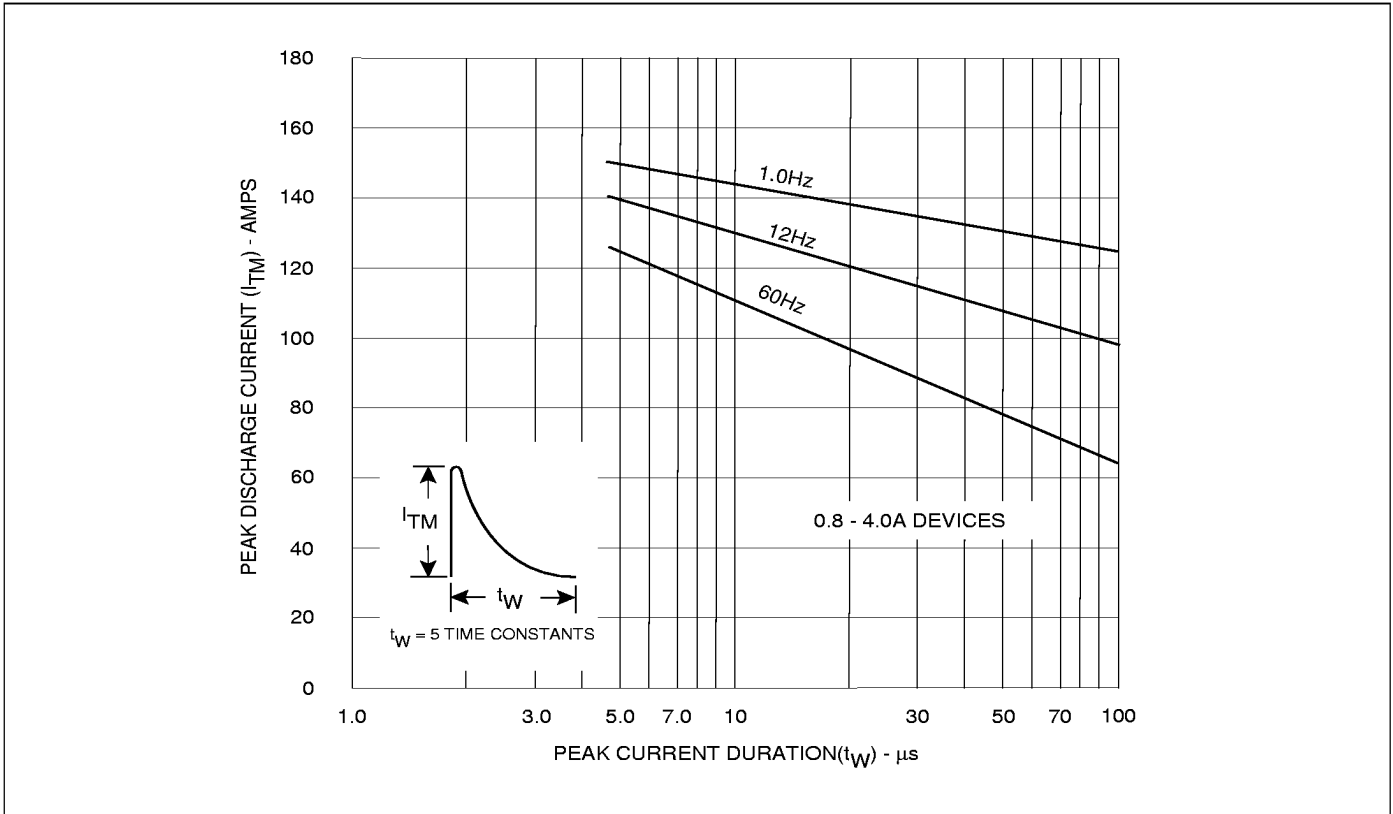

Figure 5.20 Peak Repetitive Capacitor Discharge Current
- (7) 0.8 - 4.0A devices also have a pulse peak forward current on-state rating (repetitive) of 75A. This rating applies for operation at 60Hz, 75°C maximum tab (or anode) lead temperature, switching from 80V peak, sinusoidal current pulse width of 10 $\mu s$  minimum, 15 $\mu s$  maximum. See Figures 5.20 and 5.21.